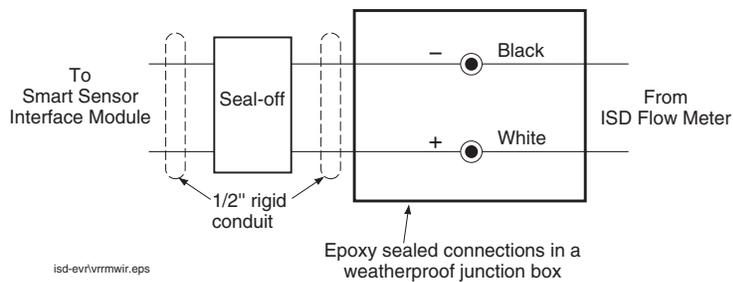

Figure 2. Field wiring Vapor Flow Meter - Observe Polarity
| Figure 2. | Field wiring Vapor Flow Meter - Observe Polarity .....             | 5  |
14. Connect the wires from the Vapor Flow Meter to the field wiring from the console and cap with wire nuts (see Figure 2).
11. Route the wiring into the junction box via the supplied cord grip assembly. Connect the wires from the Vapor Flow Meter to the field wiring from the console and cap with wire nuts (see Figure 2).